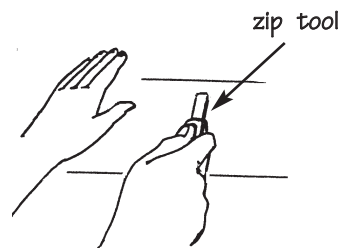

Figure 71.
- Slip the unlocking tool behind the bottom of the panel above the one to be replaced and unzip it from the lock on the damaged panel (Fig. 71).